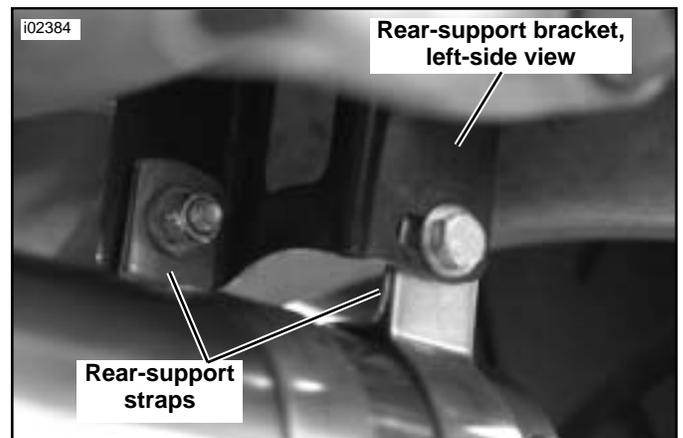

Figure 1. Rear-support straps and bracket
4. See Figure 1 and 4. Remove the bolts, lock washers, and washers fastening the muffler to the rear-support bracket. Discard the fasteners.
4. See Figure 1. Slide the rear-support straps (6) onto the back end of the muffler. Orient the straps opposite one another to fit the rear-support bracket.
8. See Figures 1 and 4. Loosely fasten the rear-support straps to the rear-support bracket using the washers and bolts provided. Be certain that the rear clamp is not contacting the endcap screws. If it is, adjust the clamp so that it does not touch the screws. Tighten the rear-support-bracket fasteners to 17-19 ft-lbs (23-25.8 Nm).